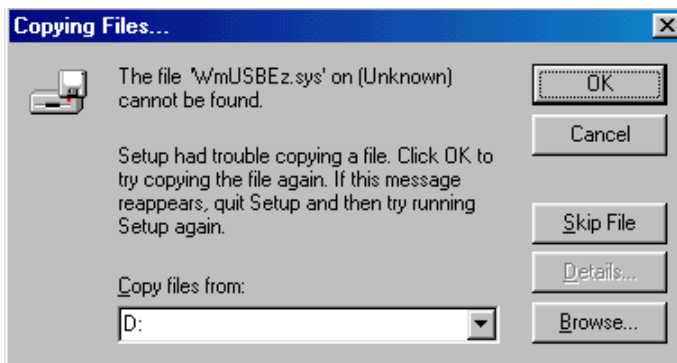

Figure 1-8. Windows 98 – Copying .SYS File
10. Click **OK**. The **Copying Files** dialog box (Figure 1-8) appears.